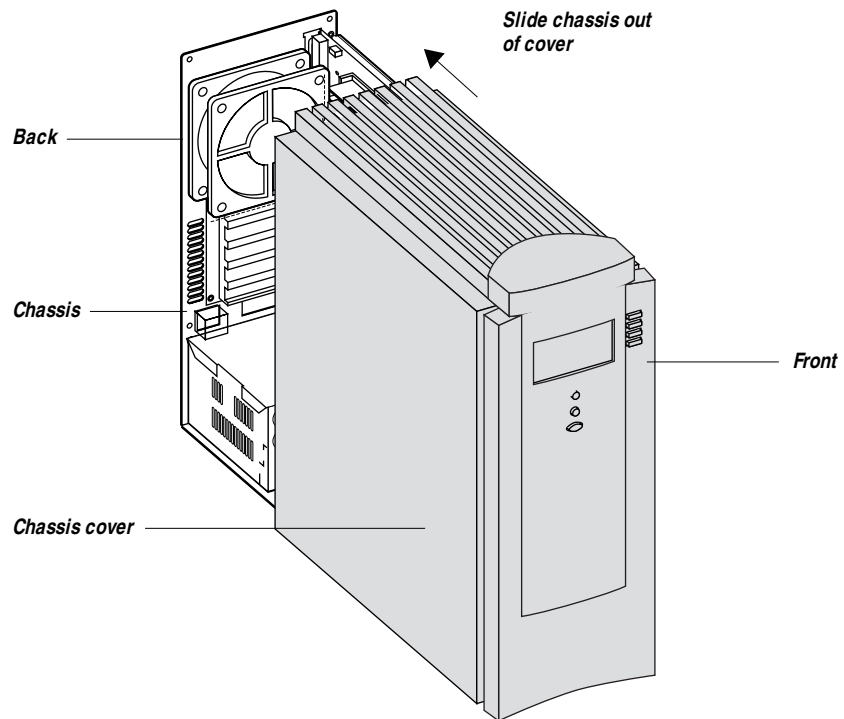

Figure 5-3 Removing the Fiery XJ BP100 chassis cover
5. ***Pull the chassis out of the chassis cover (see Figure 5-3 on page 5-5). The internal components of the Fiery XJ BP100 are now accessible.***